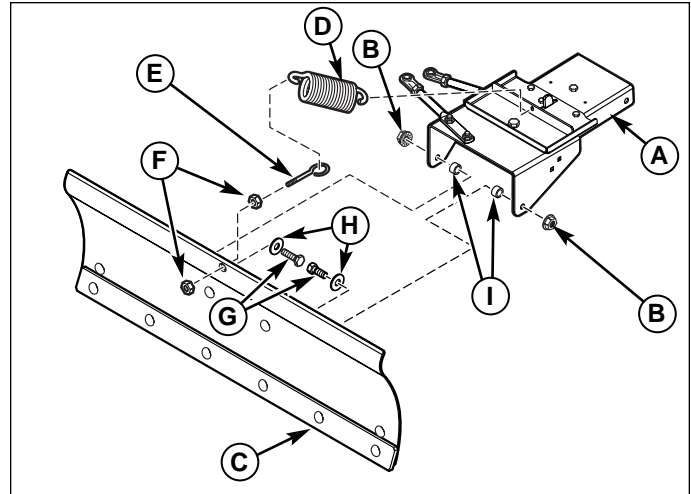

Figure 11. Snow Blade Assembly
1. Attach the pivot assembly (A, Figure 11) to the snow blade (C) using bolt and nut (B).
2. Attach the tension spring (D) to the pivot assembly (A) and then to the eyebolt (E).
3. Tighten the eyebolt nut (F) to apply tension to the spring. Tighten lock nut (G) when the proper spring tension is set.